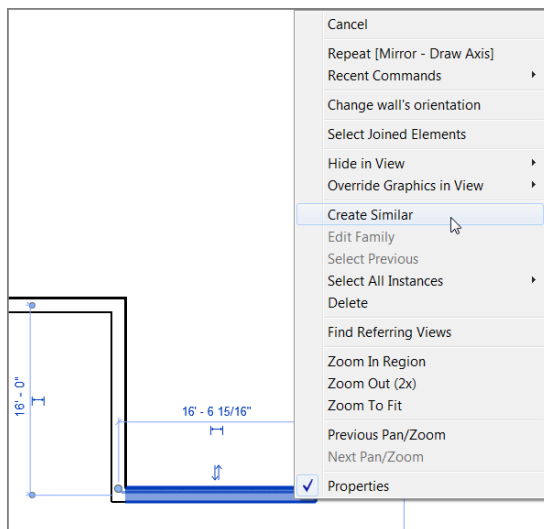

FIGURE 1.27: You can select any item in Revit and create a similar object by right-clicking and selecting Create Similar.
5. Select Create Similar, as shown in Figure 1.27.